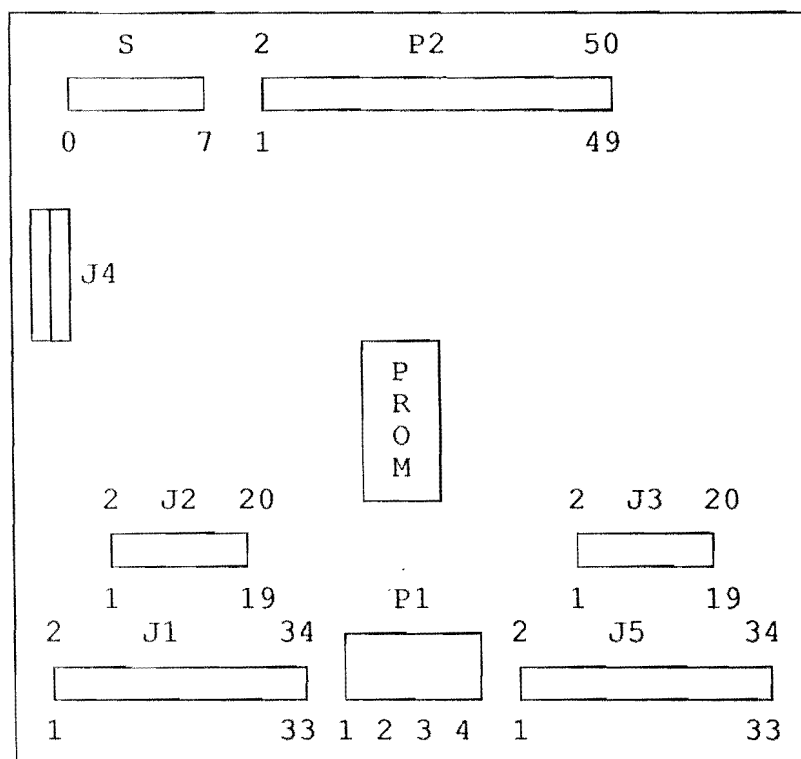

Figure 4: Xebec 1420 layout
Your kit may include either a Xebec 1420 or an Adaptec 4000(A) HDC, or equivalent. Figure 4 shows the layout of the Xebec 1420 HDC. The board is oriented in the cabinet's card slot so that the end containing the power connector is towards the front of the cabinet; this places the 50-pin header connector towards the host adaptor.